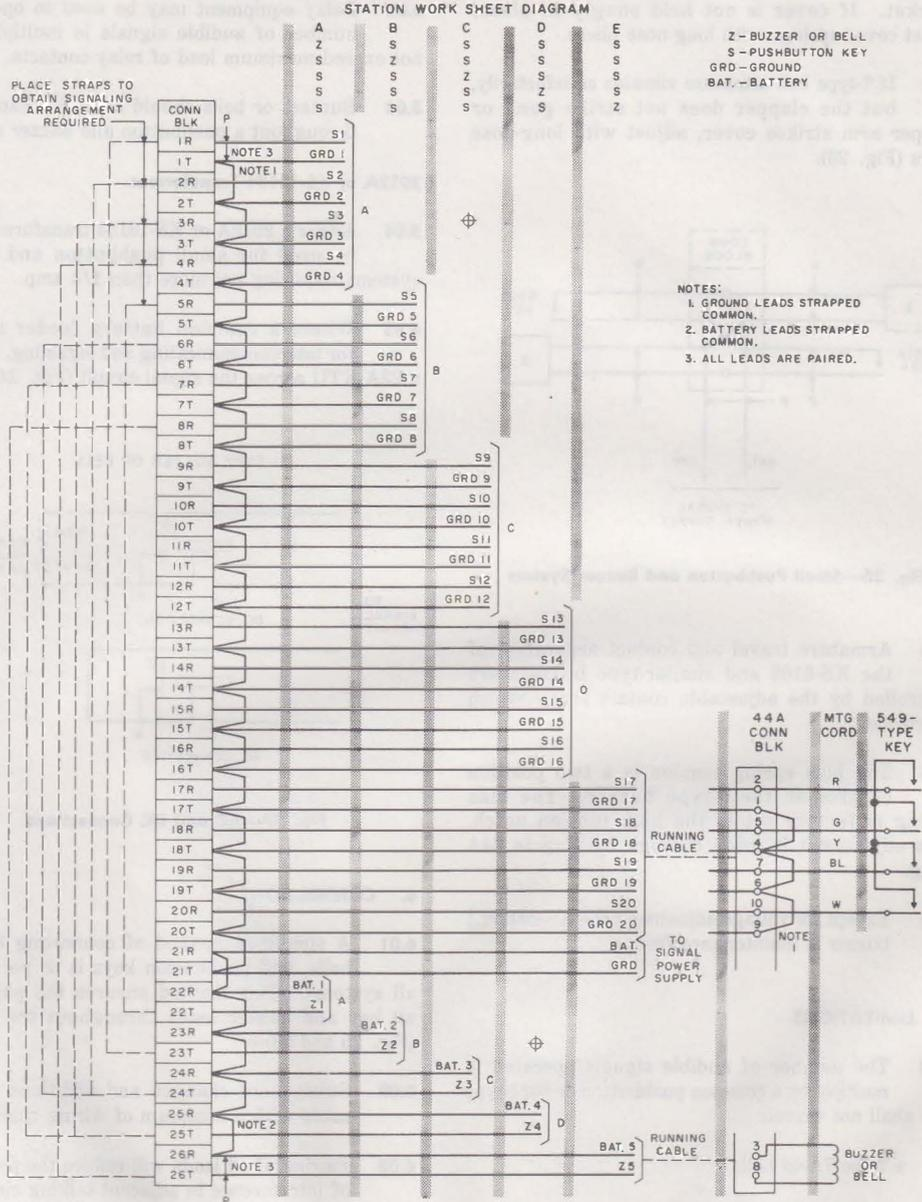

Fig. 25—Large Pushbutton and Buzzer System
6.01 A simplified method of connecting buzzers, bells, and pushbutton keys is to be used on all systems. This method ensures the pairing of all key and buzzer leads throughout the system (Fig. 25 and 26).